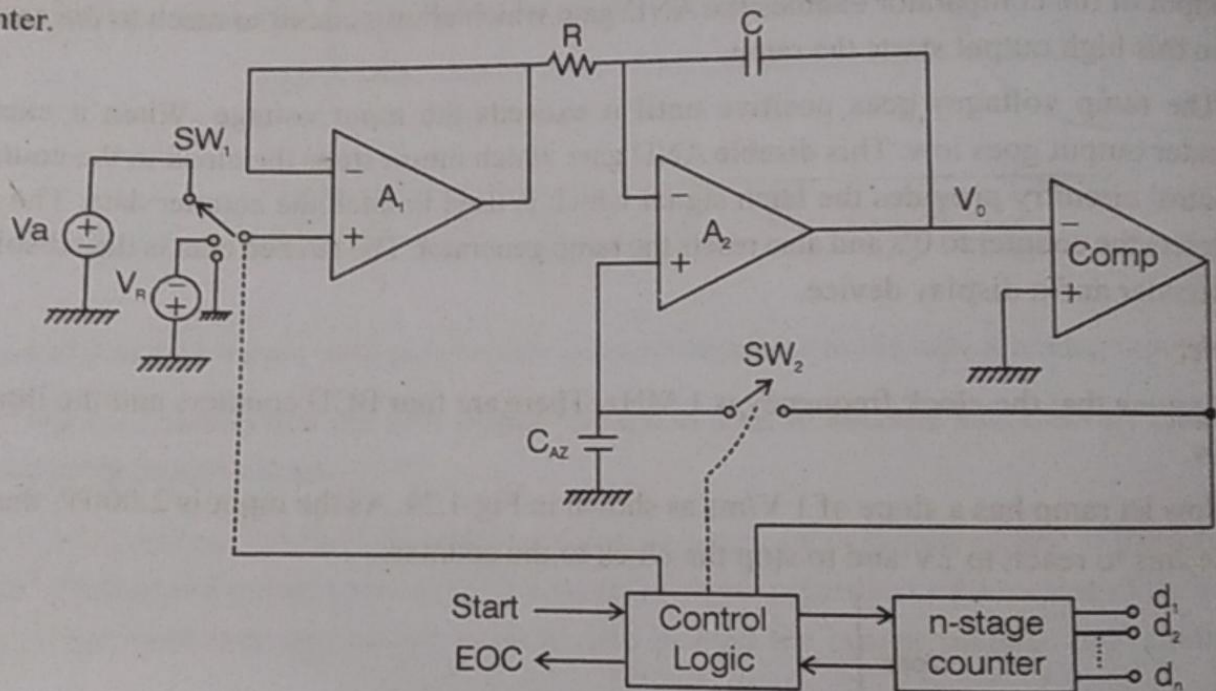
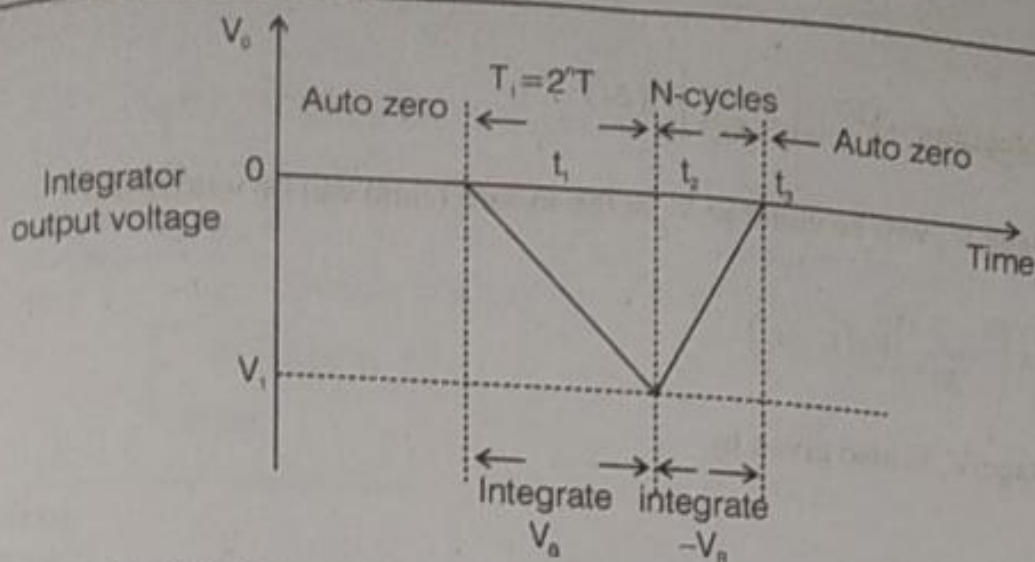

Fig.4.25 Functional diagram of the dual slope ADC
Fig.4.26 Integrated output waveform for the dualslope ADC
Fig.4.25 shows the functional diagram of the dual slope or dual ramp converter. The analog part of the circuit consists of a high input impedance buffer, A_1 precision integrator A_2 and a voltage comparator. The converter first integrates the analog input signal for a fixed duration of 2^n clock periods as shown in Fig.4.26. Then it integrates an internal reference voltage V_R of opposite polarity until the integrator output is zero. The number N of clock cycles required to reduce the integrator to zero is proportional to the value of V_a averaged over the integration period. Hence N represents the desired output code. The circuit operates as follows.
- The analog voltage V_a is integrated for a fixed number 2^n counts of clock pulses after which the counter resets to zero. If the clock period is T , the integration takes place for a time $T_1 = 2^n \times T$ and the output is a ramp going downwards as shown in Fig.4.26.
In Fig. 4.26